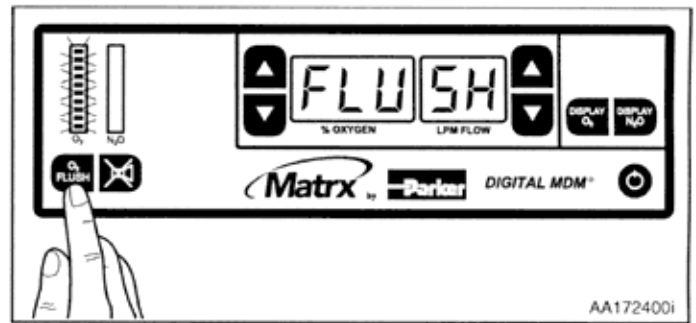
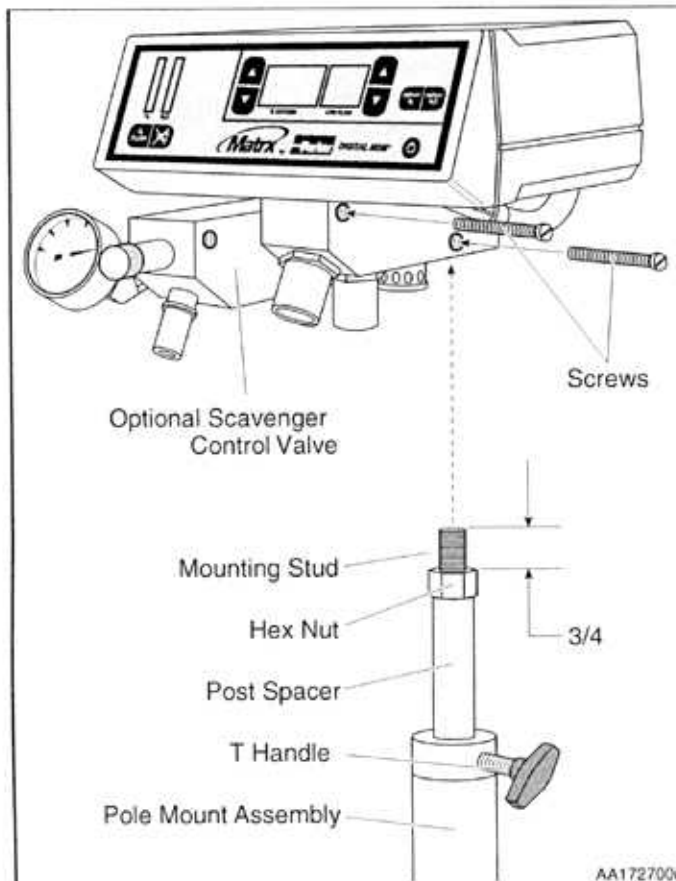

Figure 12. O₂ Flush Key.
Figure 14. Installation of Stand Mount.
Oxygen Flush Key: Pushing the O₂ FLUSH key, as shown in Figure 12, delivers 100% oxygen directly to the mixed gas outlet at the rear of the unit. This outlet is connected to the patient through the breathing tube connector (see Figure 14). While the key is pushed, 100% oxygen is delivered continuously at an approximate flow rate of 20 LPM. Releasing the key returns the unit to the flow rate and mixture ratio which were in effect prior to the flush.
1. Thread the hex nut on the mounting stud until at least 3/4" of the thread is exposed above the nut on the stud (See Figure 14).
5. If the optional Scavenger Control Valve was purchased separately, align it with the 2 holes on the base of the mixer. Secure with the (2) #10-32 screws.